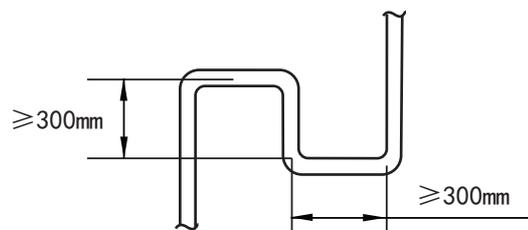

Fig.5-2
3. When the outdoor unit is on the top position and the difference of level is over 20m, it is recommended that set a oil return bend every 10m in the air pipe of the main pipe, the specification of the oil return bend refers to Fig.5-2.